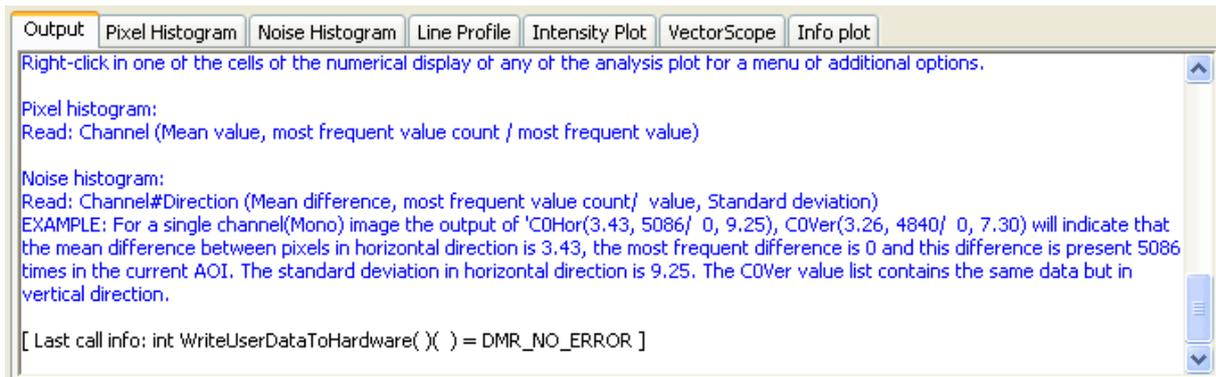

Figure 2: ImpactControlCenter - analysis tool "Output"
- To save the data on the device, you have to execute "WriteDataToHardware". Please have a look at the "Output" tab in the lower right section of the screen as shown in Figure 2, to see if the write process returned with no errors. If an error occurs a message box will pop up.